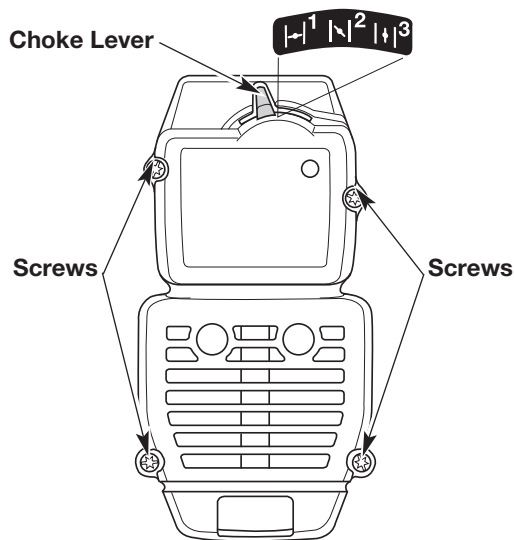

Fig. 21
NOTE: The choke lever must be in Position 2 (Fig. 21) to remove the air filter/muffler cover.
2. Remove the four (4) screws securing the air filter/muffler cover (Fig. 21). Use a flat blade or T-20 Torx bit screwdriver.
NOTE: The choke lever must be in Position 2 (Fig. 21) to install the air filter/muffler cover.
2. Insert the four (4) screws into the holes in the air filter/muffler cover (Fig. 21) and tighten. Use a flat blade or T-20 Torx bit screwdriver. Do not over tighten. Do not force.